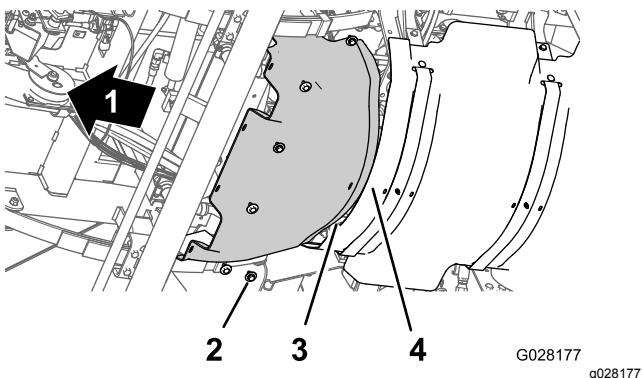

Figure 63
1. Align the rear flange of the forward heat shield over the forward flange of the rear heat shield (Figure 63).
2. Align the holes in the forward heat shield with the threaded holes in the chassis (Figure 63).
3. Assemble the forward heat shield to the machine with the 6 hex-head bolts and 6 washers (Figure 63) that you removed in step 3 of Removing the Forward Heat Shield \(page 49\).